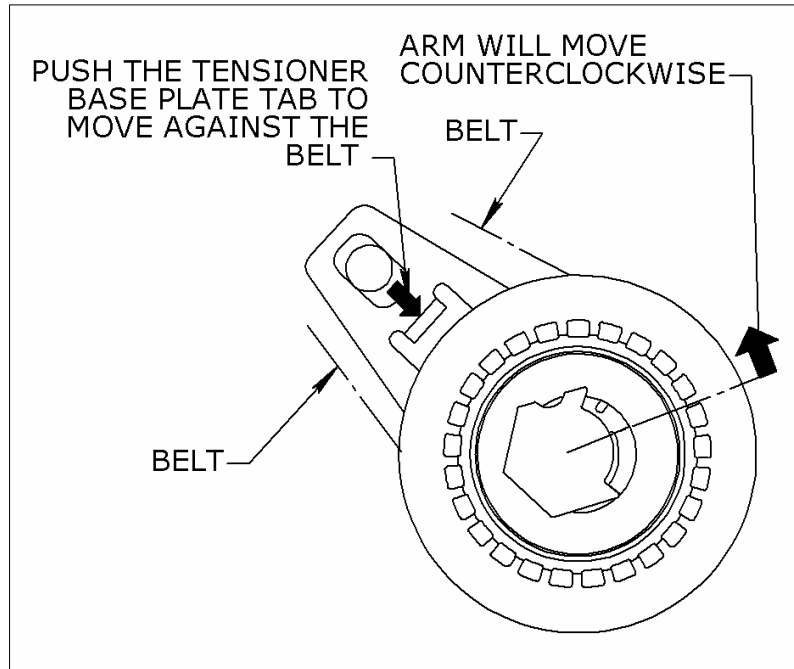

Figure 4: Tensioner Rotation Direction during Installation
7. Manually push the tensioner base plate tab to move against the belt, and the tensioner arm will eventually start to move counterclockwise (Figure 4).